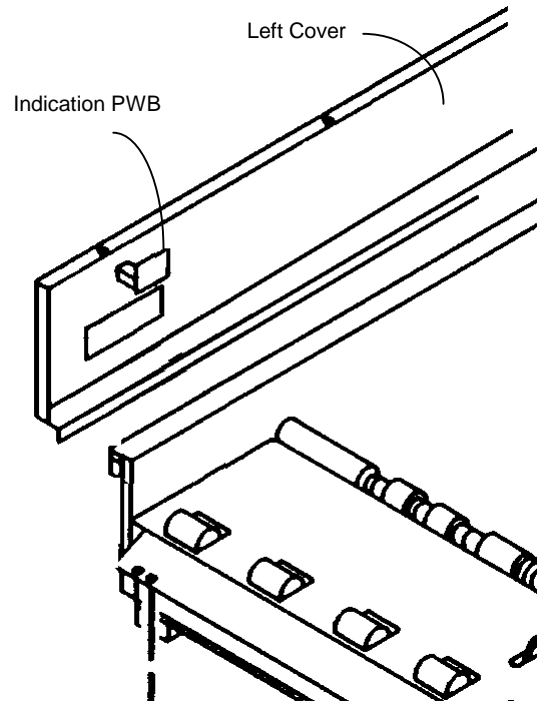

Figure 1. Left Cover Removal
3. (Figure 1): Slowly move the Left Cover away from the Left Side Frame.